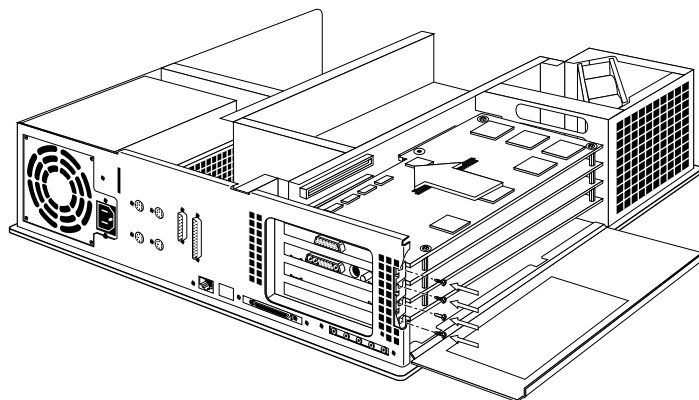

Figure 3-11 Inserting the graphics board set into the chassis
The metal panels on the left should be flush with the chassis, as shown in Figure 3-11.
3. Screw down the metal panels to attach the graphics board set to the chassis, as shown in Figure 3-11.